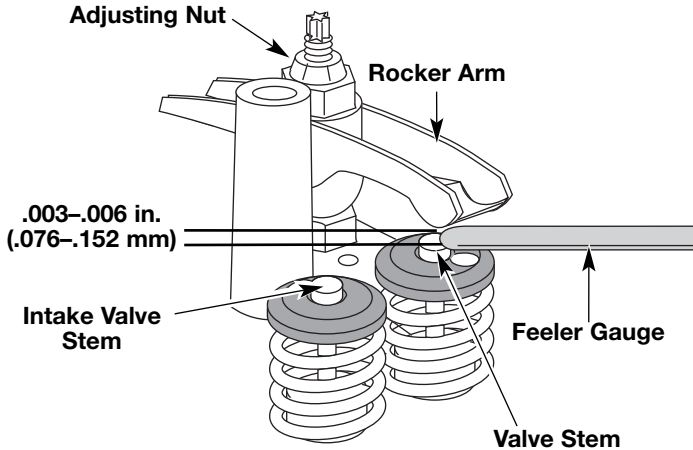

Fig. 33
- a. Turn the adjusting nut (Fig. 33) using a 5/16 inch (8 mm) wrench or nut driver.